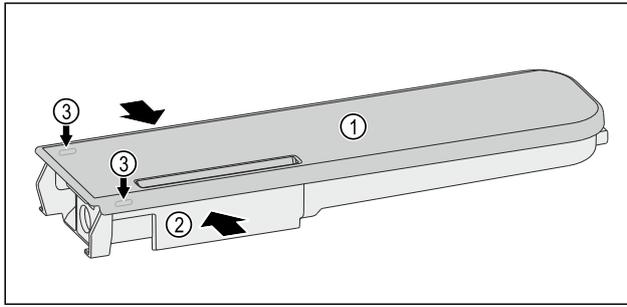

Fig. 123
- ▶ Push the water tanks Fig. 123 (2) together, leverage the cover Fig. 123 (1) carefully over the latching tabs Fig. 123 (3) and lift it up.
- ▶ Move the cover Fig. 123 (1) slightly forwards and back, and remove to the top.